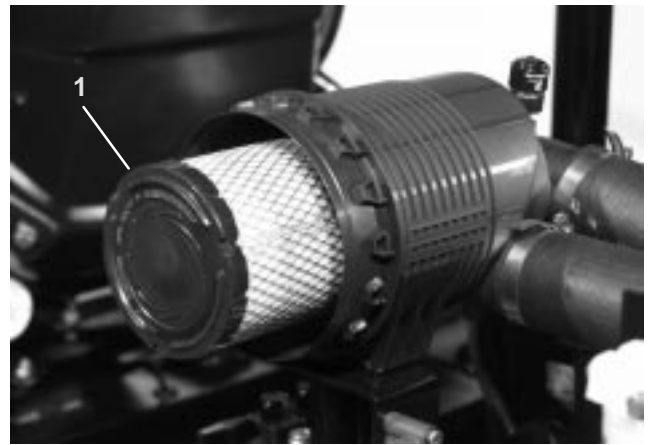
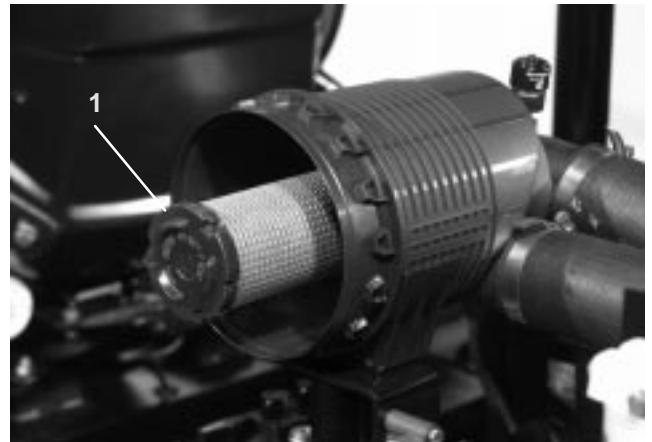

Figure 44
Figure 45
2. Gently slide primary filter (Fig. 44) out of air cleaner body to reduce the amount of dust dislodged. Avoid knocking filter against air cleaner body. **Do not remove safety filter (Fig. 45).**